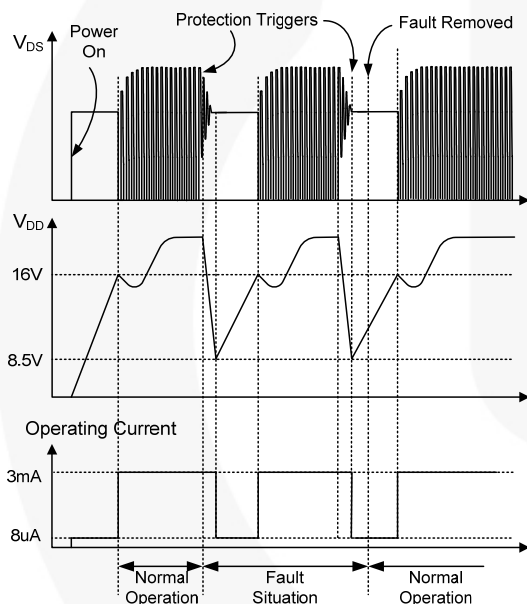

Figure 26. Auto-Restart Operation
Once a fault condition is detected, switching is terminated and the MOSFET remains off. This causes V_{DD} to fall because no more power is delivered from the auxiliary winding. When V_{DD} falls to V_{DD-OFF} (8.5V), the protection is reset and the operating current reduces to startup current, which causes V_{DD} to rise. FAN6862H(HR) resumes normal operation when V_{DD} reaches V_{DD-ON} (16V). In this manner, the auto-restart can alternately enable and disable MOSFET switching until the fault condition is eliminated (see Figure 26).